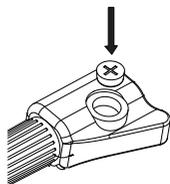

fig.2
- Put CR2032 battery into battery house, positive side of battery(+) should face out (fig. 2).